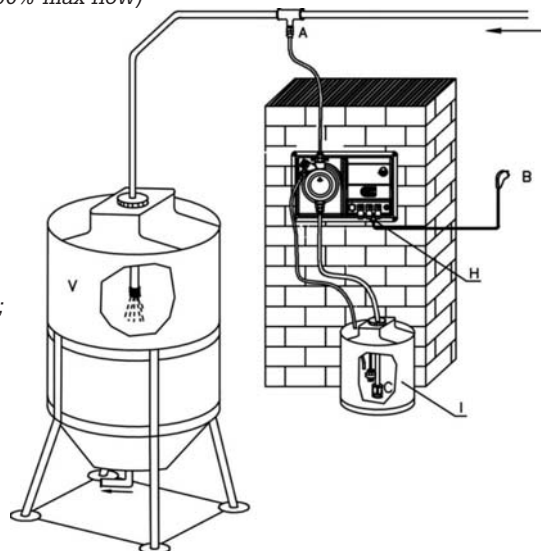

Fig. 13
6.2 - TYPICAL INSTALLATION (Fig.13)